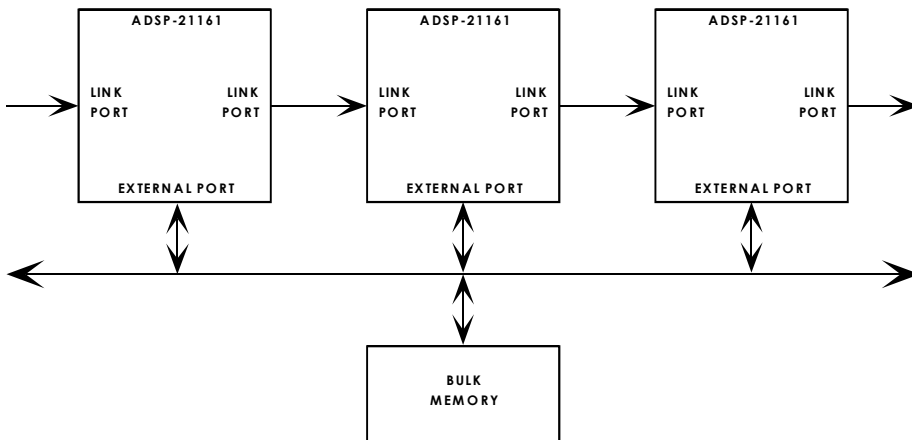

Figure 7-30. Cluster Multiprocessing
Cluster multiprocessing works for applications where flexibility is required. This flexibility is needed when a system must be able to support a variety of different tasks, some of which may be running concurrently. The cluster multiprocessing configuration is shown in Figure 7-30. Also, the DSP has an on-chip host interface that lets a cluster be interfaced to a host processor or another cluster.
**SIMD Multiprocessing.** For certain classes of applications such as radar imaging, a Single-Instruction Multiple-Data (SIMD) array of DSPs may be the most efficient topology to coordinate a large number of DSPs in a single system. The SIMD array of Figure 7-30 on page 7-97 consists of multiple DSPs connected in a two- or three-dimensional mesh. The data link ports provide nearest neighbor communications and through-routing of data. A single master DSP provides the instruction stream that the array executes. Data flow in and out the array can be managed through multiple serial port streams.